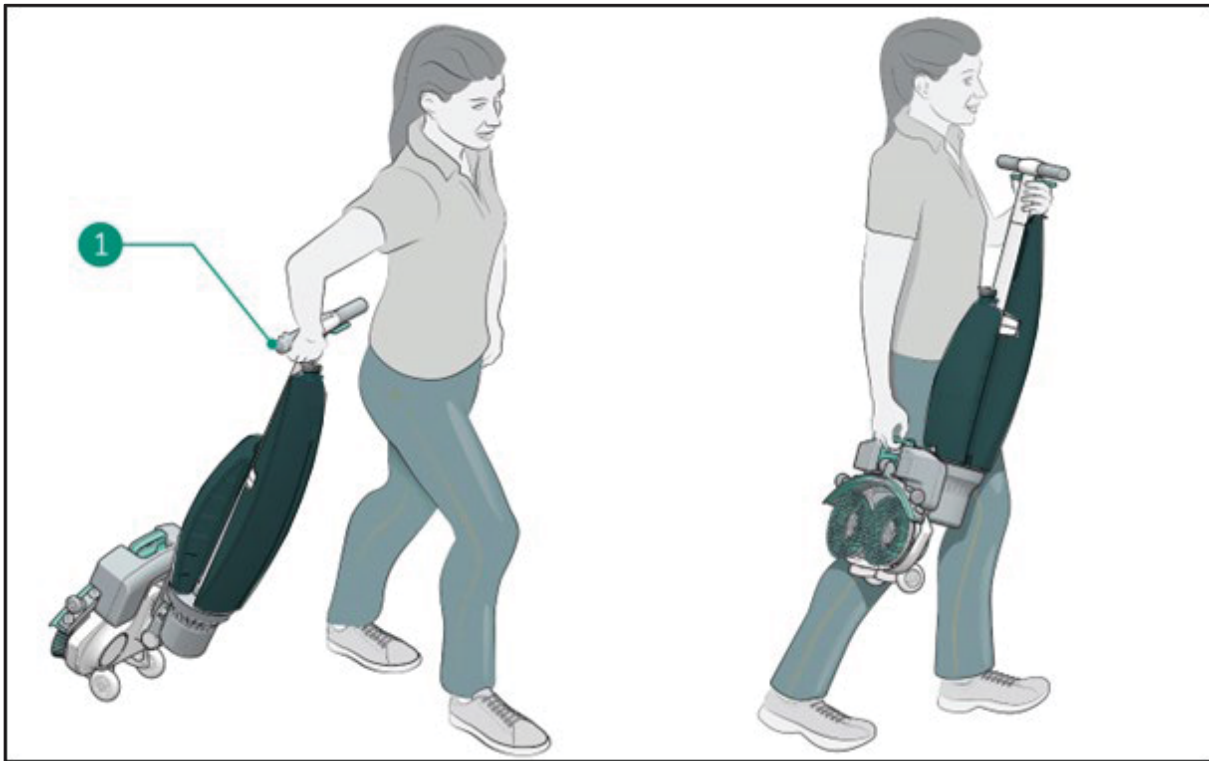

Figure 15
2. Hold the handle with one hand (Figure 15, pos 1).